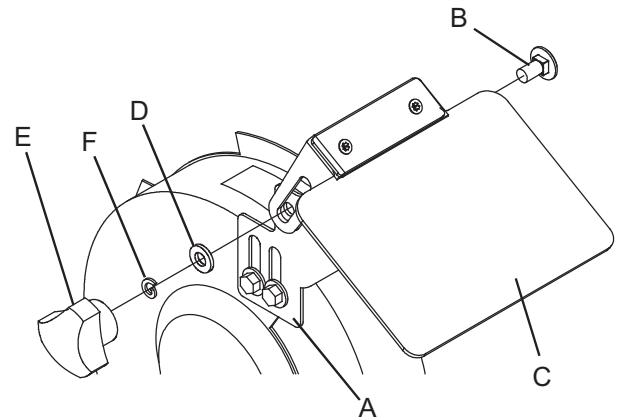

Figure 7 - Assemble eyeshields.
- Assemble the eyeshield (C) to the spark arrestor (A) inserting carriage head screw (B) through eyeshield and the spark arrestor as shown. See Figure 7.
- Assemble the flat washer (D), lockwasher (F) and lock knob (E) to the carriage head screw and tighten until the eyeshield remains in the desired position. See Figure 7.